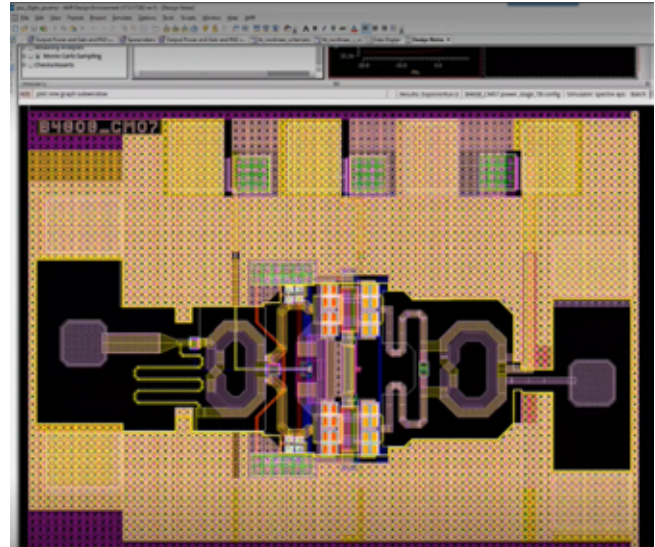

Figure 3: Si MMIC design for a 28GHz power amplifier (PA) using a Virtuoso PDK in Microwave Office software
The V22.1 release accelerates design data transfers between AWR Microwave Office® and the Cadence Allegro® System Capture front-end tool for schematic entry and high-level system architecture and Allegro PCB and Allegro Package Designer Plus layout editors for detailed board/package implementation. Furthermore, V22.1 introduces support for silicon-based MMIC design with direct reuse of Cadence Virtuoso process design kits (PDKs) and integration with the Cadence EMX® Planar 3D Solver, an electromagnetic (EM) simulator for high-frequency, RF, and mixed-signal silicon (Si) integrated circuits (Figure 3).